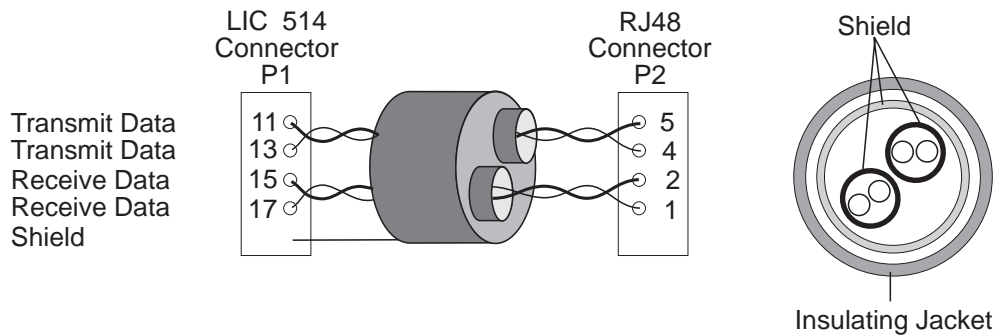
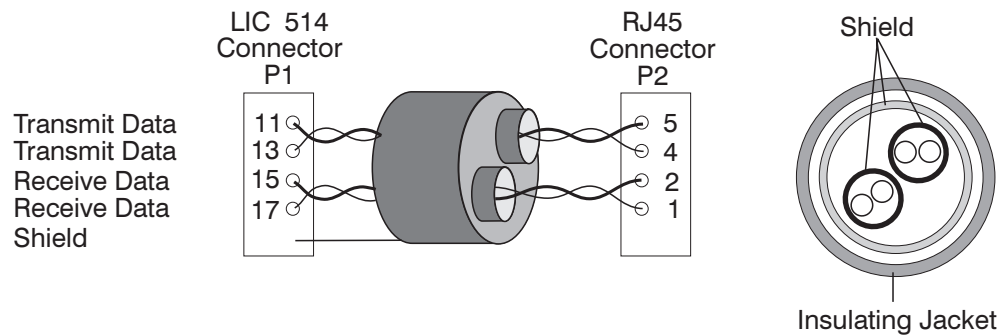

Figure 2-74. LIC514 RJ-48 T1 Cable
Figure 2-75. LIC514 RJ-45 J1 Cable
- Two twisted pairs, AWG 24, 100 ohms (see Figure 2-74 on page 2-46 and Figure 2-75 on page 2-46).